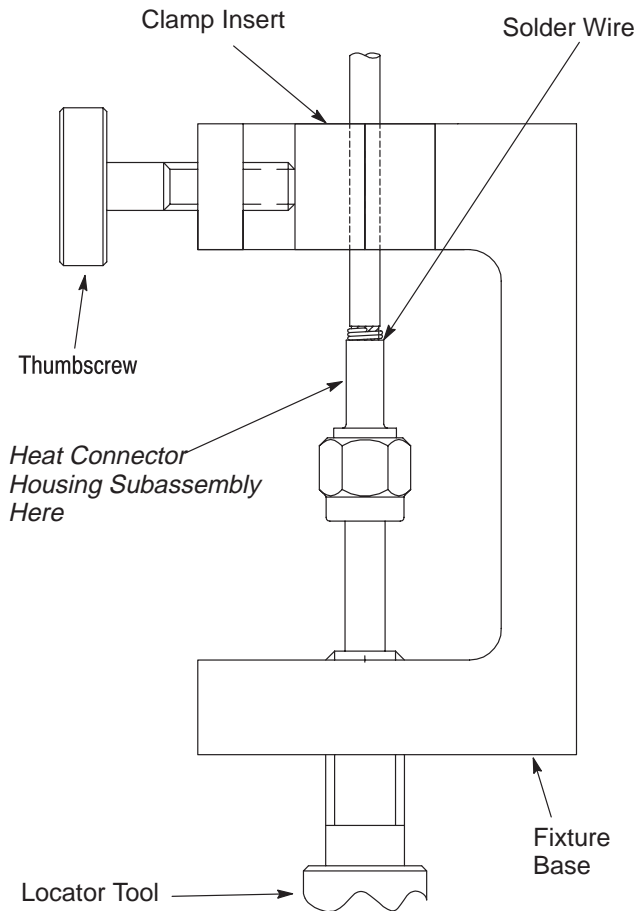

Figure 5
3. Place the loose assembly into the fixture base, as shown in Figure 5.